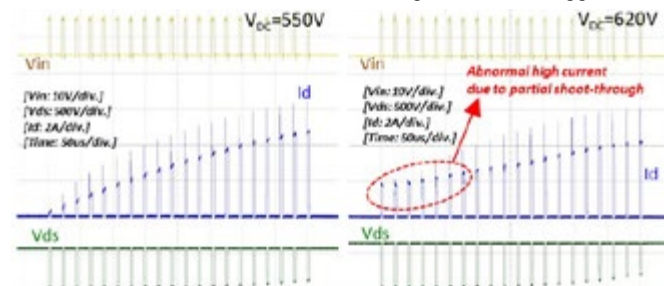

Figure 5: Switching SOA test
The switching operating SOA has been evaluated in the light of the practical IPM inverter circuit condition including parasitic circuit inductances. We have increased the applied dc-link voltage up to over 600V although the proposed IPM has 500V of voltage rating limited by the MOSFET breakdown voltage (BV). To guarantee 500V, the typical BV design of the MOSFET is based on 550V. It is noted that there is no any abnormal phenomenon in the switching operation with the condition of 550V of dc-link voltage due to highly rugged MOSFET design as is shown in the waveforms of Figure 5. When we apply over 600V of dc-link voltage, it is observed that abnormal turn-on currents occur because of partial shoot-through current. But there was no destruction failures of the IPM due to strong short-circuit ruggedness.